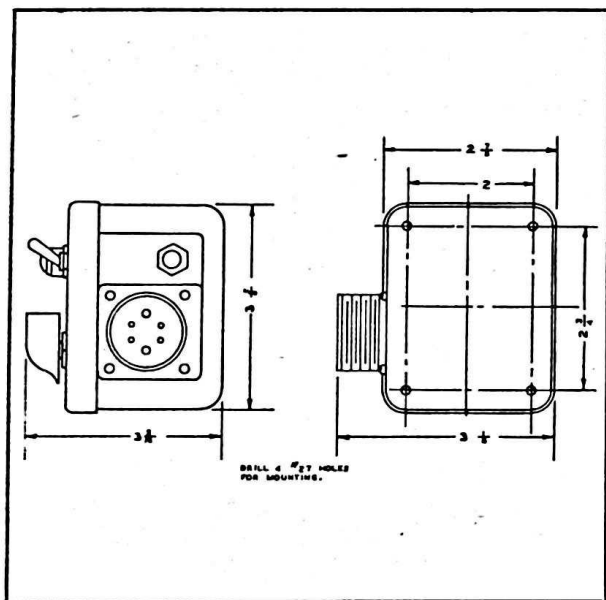

Figure 4—Radio Control Box BC-494, Mounting Dimensions
c. RADIO CONTROL BOX BC-494.—Install Radio Control Box BC-494, using figure 4 as a guide. Make sure Cord CD-918 is of sufficient length to connect the control box to Dynamotor Unit PE-180. Place the "BATTERY" switch on the radio control box in the "OFF" position.